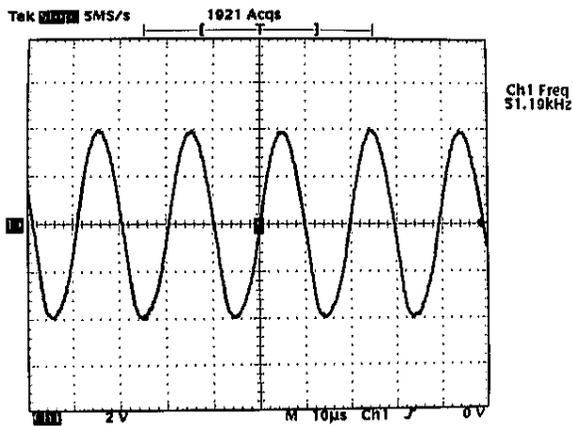

Figure 1.
3. Verify the operation of the crystal on Pin 21 of U6 (Figure 1).